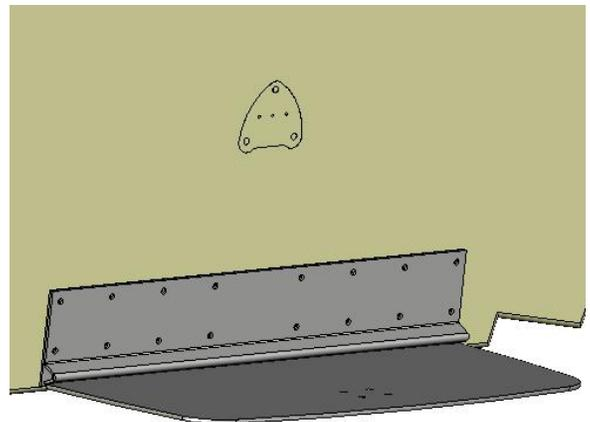

Figure 3
4. Remove the assembly template. When completed, you should have an outline of the actuator upper mount as shown in *Figure 3*.